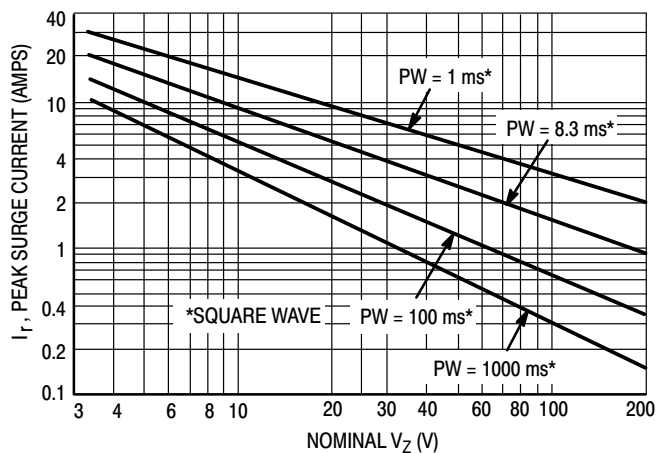
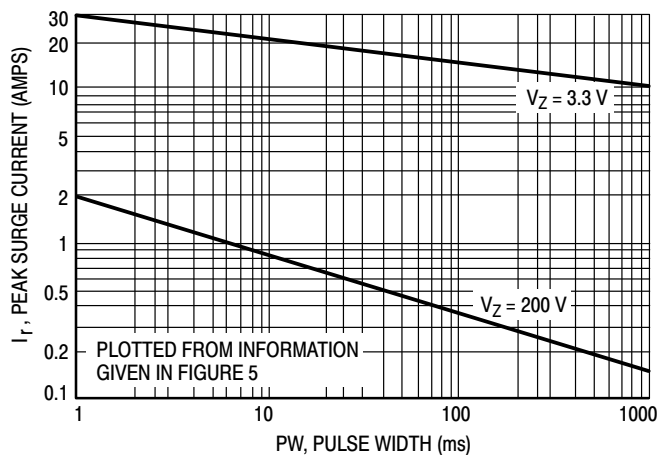

Figure 5. Maximum Non-Repetitive Surge Current
Figure 6. Peak Surge Current versus Pulse Width
- SURGE CURRENT ( $I_R$ ):** Surge current is specified as the maximum allowable peak, non-recurrent square-wave current with a pulse width, PW, of 8.3 ms. The data given in Figure 5 may be used to find the maximum surge current for a square wave of any pulse width between 1 ms and 1000 ms by plotting the applicable points on logarithmic paper. Examples of this, using the 3.3 V and 200 V zener are shown in Figure 6. Mounting contact located as specified in Note 2 ( $T_A = 25^\circ\text{C} + 8^\circ\text{C}, -2^\circ\text{C}$ ).
8. **SURGE CURRENT ( $I_P$ ):** Surge current is specified as the maximum allowable peak, non-recurrent square-wave current with a pulse width, PW, of 8.3 ms. The data given in Figure 5 may be used to find the maximum surge current for a square wave of any pulse width between 1 ms and 1000 ms by plotting the applicable points on logarithmic paper. Examples of this, using the 3.3 V and 200 V zener are shown in Figure 6. Mounting contact located as specified in Note 7 ( $T_A = 25^\circ\text{C} + 8^\circ\text{C}, -2^\circ\text{C}$ ).
Data of Figure 4 should not be used to compute surge capability. Surge limitations are given in Figure 5. They are lower than would be expected by considering only junction temperature, as current crowding effects cause temperatures to be extremely high in small spots resulting in device degradation should the limits of Figure 5 be exceeded.